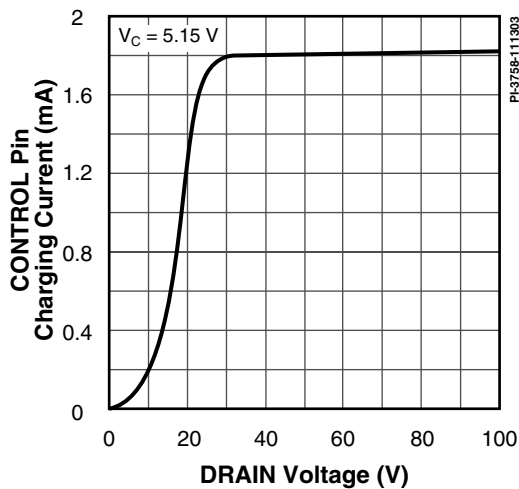

Figure 16. I_c vs. DRAIN Voltage.
- E. It is possible to start up and operate *LinkSwitch* at DRAIN voltages well below 36 V. However, the CONTROL pin charging current is reduced, which affects start-up time, auto-restart frequency, and auto-restart duty cycle. Refer to the characteristic graph on CONTROL pin charge current (I_C) vs. DRAIN voltage (Figure 16) for low voltage operation characteristics.